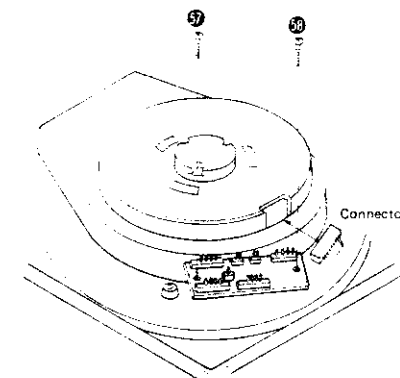

Fig. 14
Notes: 1. When inserting the connector, remove the bottom cover beforehand. (See Fig. 14)
2. Remove the 2 setscrews (Fig. 14 : ⑤, ⑥) of the printed board to remove the board.